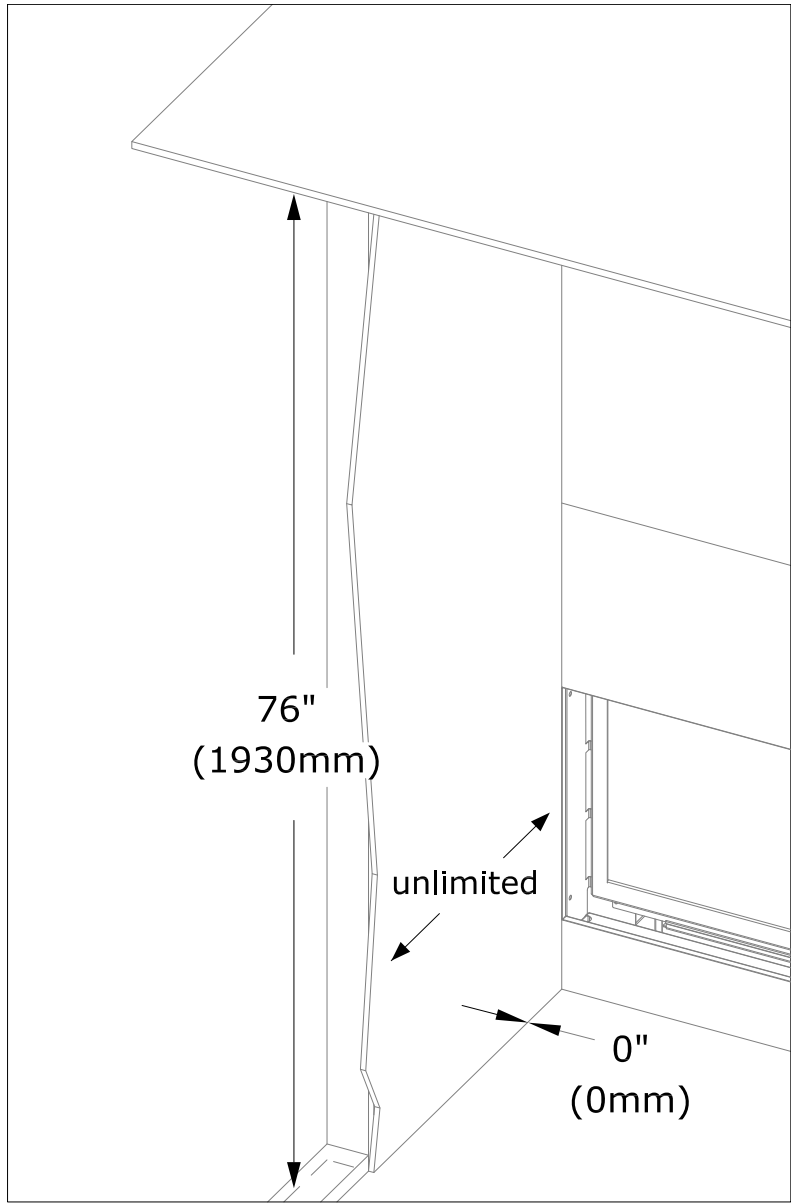

Figure 5.4 - Sidewall Projection - Standard Installation
- Mantel Leg: Follow 'Combustible Sidewall Clearance' below. See Figure 5.4. If installing an optional surround, refer to Measurement 'A', in Section 5.8 Finishing Guidelines for Optional Surrounds, for the space required from the optional surround sides to finishing material.
- Combustible Sidewall Clearance: Unlimited combustible sidewall trim can be at 0" (0mm) to the fireplace side finishing edge. See Figure 5.4. If installing an optional surround, refer to Measurement 'A', in Section 5.8 Finishing Guidelines for Optional Surrounds, for the space required from the optional surround sides to finishing material.